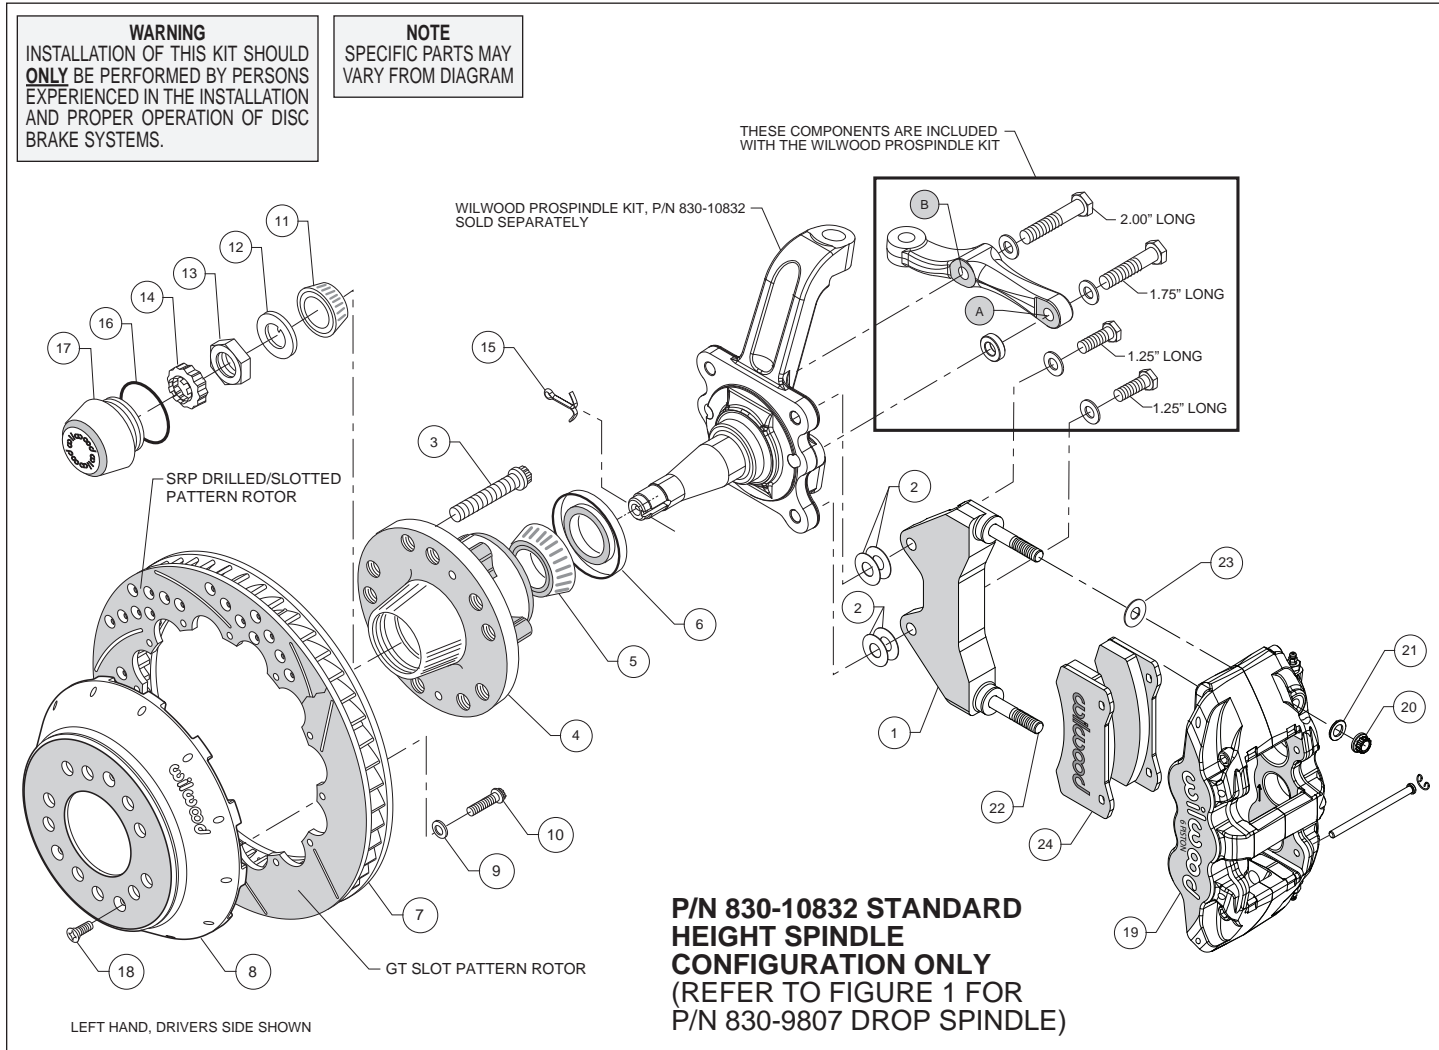

Figure 2. Installation Configuration For Standard Height Spindle, P/N 830-10832
- Orient the bracket as shown in Figure 2 and Photo 2. Install using 1.25" long bolts and .06" thick washers (from ProSpindle kit), and two .016" thick shims (2) on each bolt between the bracket and spindle, Figure 2. Temporarily tighten mounting bolts. **NOTE:** The bracket must fit squarely against the mounting points on the spindle. Inspect for interference from casting irregularities, machining ridges, burrs, etc. Later, after the caliper alignment has been checked, the mount bolts will be secured using red Loctite® 271.
- Orient the steering arm, and identify the hole marked 'A', as shown in Figure 2. Install using 1.75" long bolt, .06" thick washer, and .30" thick spacer (all from ProSpindle kit), Figure 2.
- Finish attaching the steering arm through the hole marked 'B', as shown in Figure 2. Install using 2.00" long bolt and .06" thick washer (from ProSpindle kit), Figure 2.
- Install wheel studs (3) into the hub (4), Photo 3. Torque to 77 ft-lb. **NOTE:** There are two five lug patterns in the hub (5 x 4.50 and 5 x 4.75). Ensure the correct hub stud pattern is being used to fit the wheel application.